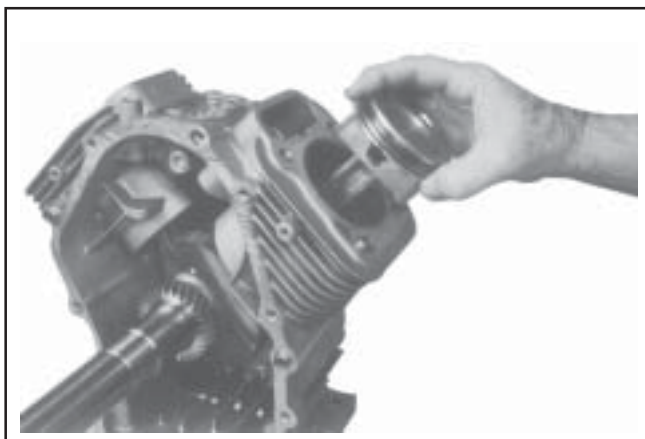

Figure 9-61. Removing Connecting Rod and Piston Assembly.
2. Carefully remove the connecting rod and piston assembly from the cylinder bore. See Figure 9-61.